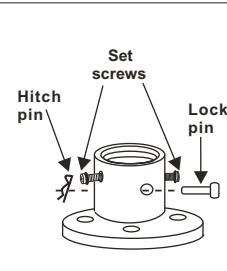

Figure 6
2. Remove the hitch pin and lock pin from the downrod assembly. Loosen the two set screws from the motor assembly. (Figure 6)